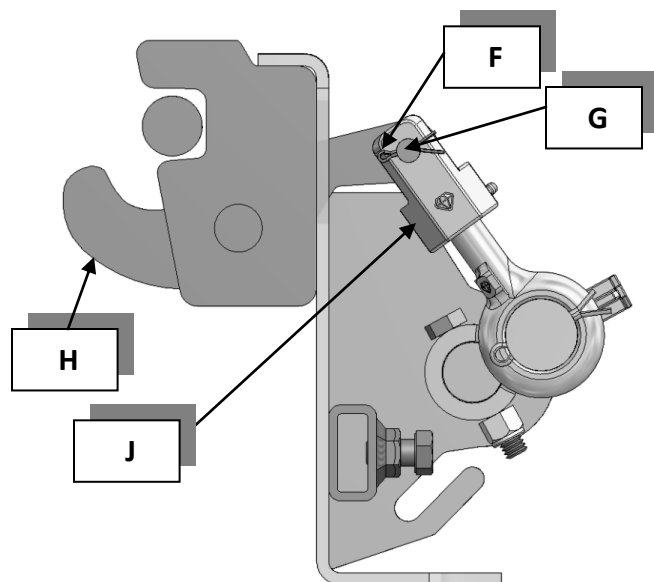

Figure 5
- With the tailgate latch (**H**) in the open position (*figure 5*), note which side of the tailgate is the least closed.
- Pull this side of the tailgate tight against the floor and try locking it with both latches (**H**) engaged (*figure 5*).